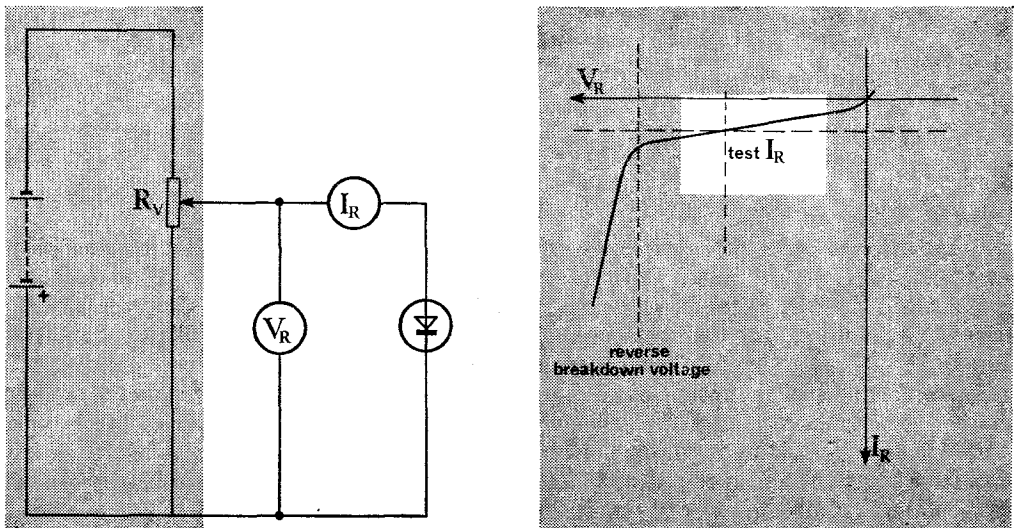

Fig. 4 Testing leakage current of a reverse biased diode
19. **Reverse bias tests.** The basic circuit shown in figure 4 is used to test diode characteristics under reverse bias conditions. Initially the potentiometer R_V is set to apply zero volts to the diode. The voltage is then *carefully* increased while watching the *ammeter reading* I_R . If this leakage current is much higher than quoted by the manufacturer the device is going unserviceable and has probably been damaged by diffusion at the junction, caused by overheating. If the diodes reverse breakdown voltage is to be tested, a graph is plotted of I_R against V_R . When the *rate of change* of I_R begins to increase suddenly, the meter reading V_R is noted and compared with the breakdown voltage quoted by the maker.